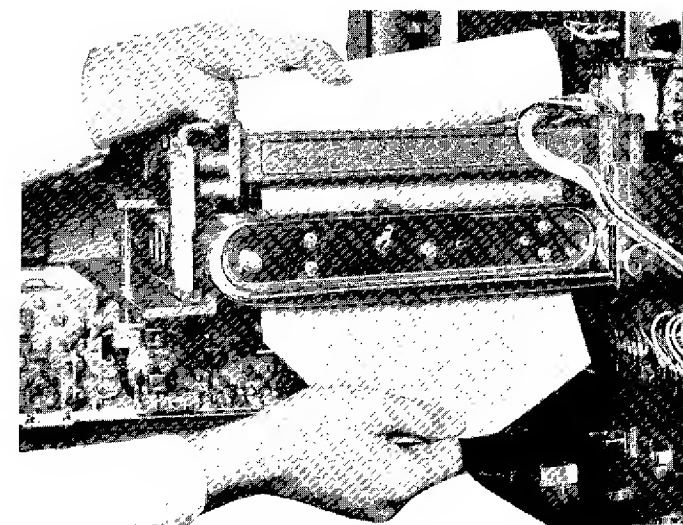

Fig.2-7
7. Place the new paper between the recording belt and the recording plate as shown in Fig.2-7. Then, fix the new paper roll to the recorder assembly with the reel knob pulled outside. Confirm that the paper roll is secured.